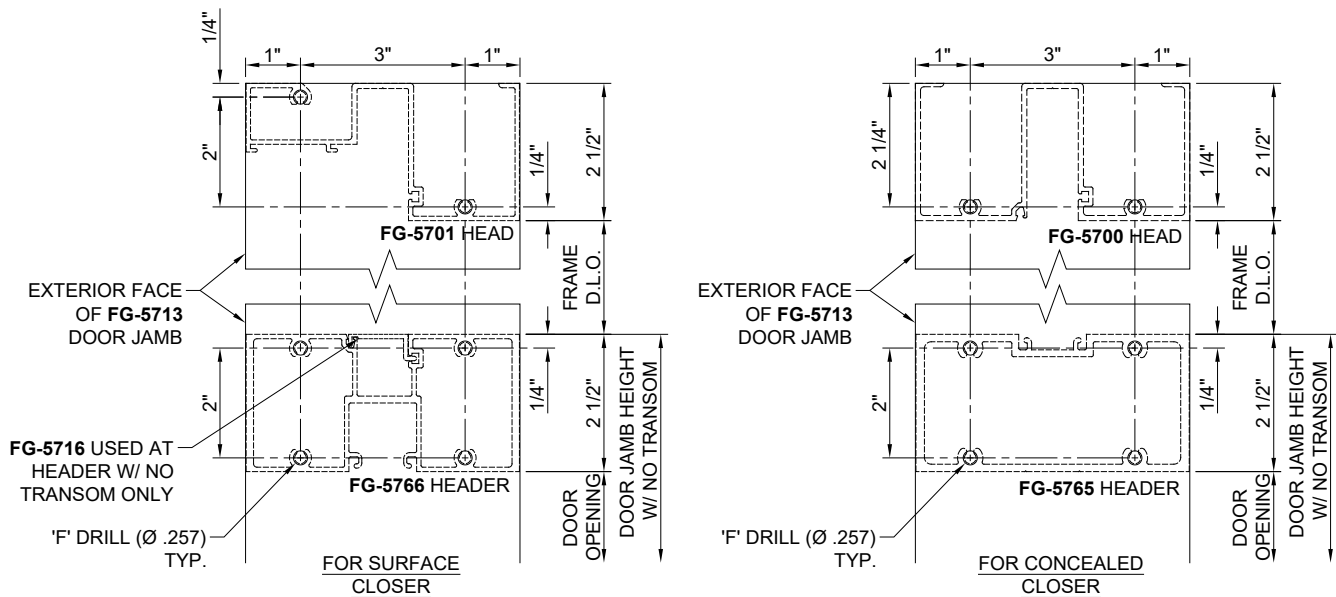
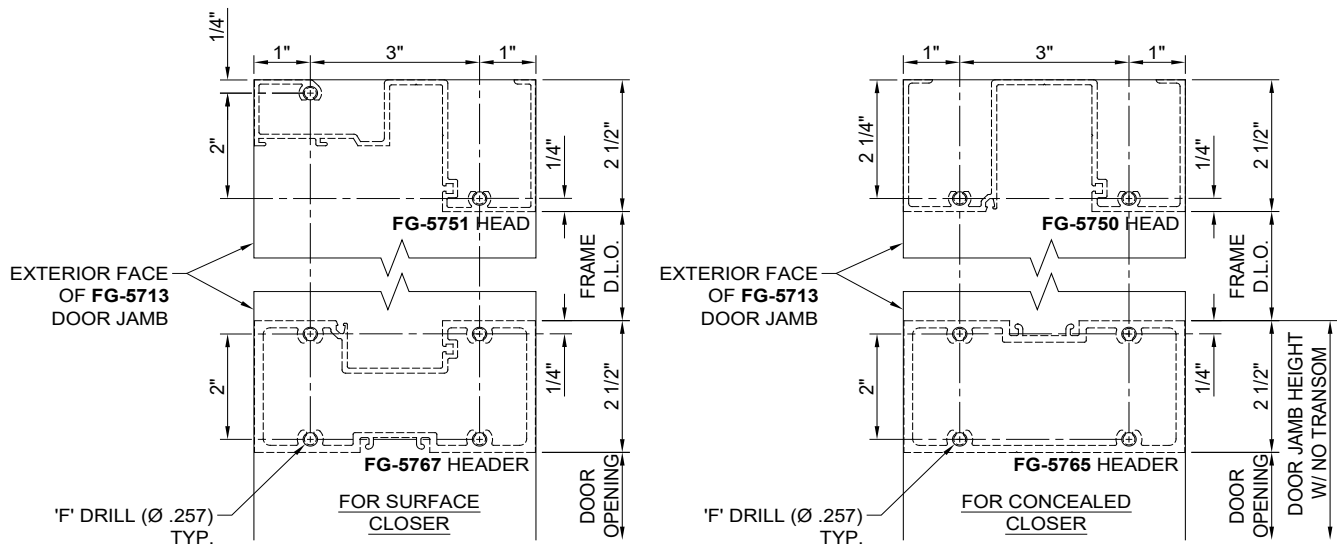

Figure 7: Fabrication for FG-5700 StormMax® Framing at Transom Head and Door Header
Figure 8: Fabrication for FG-5750 StormMax® Framing at Transom Head and Door Head
- 2.1.3 Prep Door Jamb for the Door Header and/or Transom Head horizontal. This should be made using either **DJ-5700** drill fixture or EZ-Punch die set. Reference *Figure 7* for visual prep detail.
- 2.2.4 Prep Door Jamb for the Door Header and/or Transom Head Horizontal. This should be made using either **DJ-5700** or **DJ-5750** drill fixture or EZ-Punch die set. Reference *Figure 8* for visual detail. For entrances with Surface Closer and without Transom, **FG-5766** Door Header should be used. Reference Figure 7 for prep.